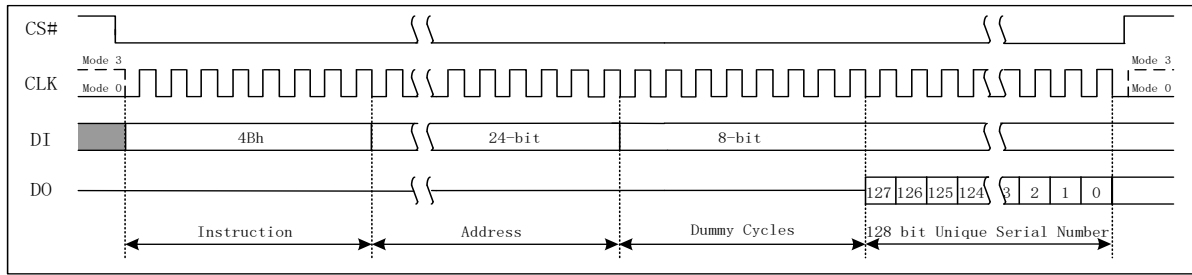

Figure 7.38 Read unique ID Number Instruction
To read out the lock bit value of a specific block or sector as illustrated in Figure 6.2, a Read Block/Sector Lock command must be issued by driving CS# low, shifting the instruction code “3Dh” into the Data Input (DI) pin on the rising edge of CLK, followed by a 24-bit address. The Block/Sector Lock bit value will be shifted out on the DO pin at the falling edge of CLK with most significant bit (MSB) first as shown in Figure 7.38. If the least significant bit (LSB) is 1, the corresponding block/sector is locked; if LSB=0, the corresponding block/sector is unlocked, Erase/Program operation can be performed.
The Read Unique ID Number instruction accesses a factory-set read-only 128-bit number which is unique to each ZB25VQ64B device. The ID number can be used in conjunction with user software methods to help prevent copying or cloning of a system. The Read Unique ID instruction is initiated by driving the CS# pin low and shifting the instruction code "4Bh" followed by a 24-bit address (A23-A0) of 000000h and one Byte dummy clock. After that, the 128-bit ID is shifted out on the falling edge of CLK as shown in Figure 7.38.